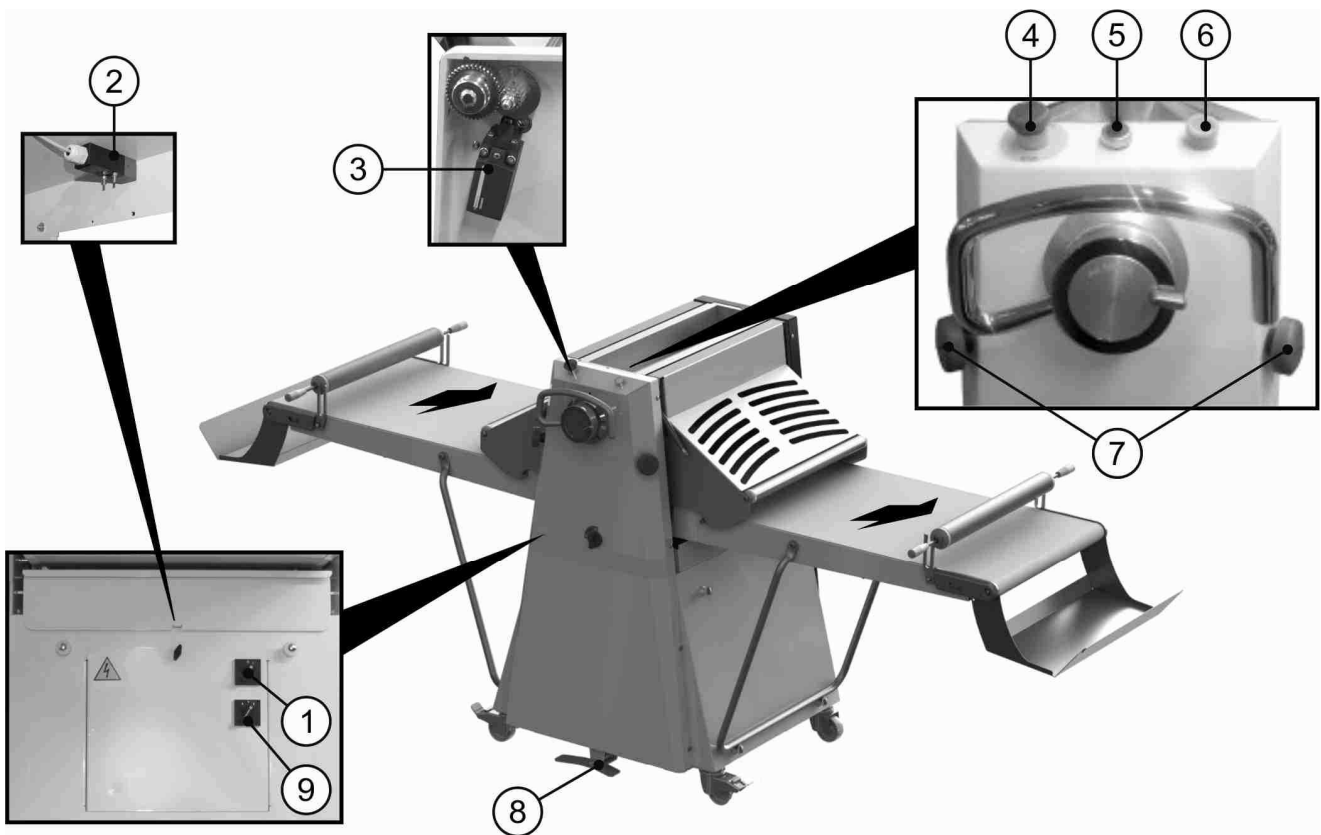

Figure 4
With reference to Figure 4 the machine is supplied as standard with the following control and adjustment devices:
- Position the main switch to **I (ON)** ref.1 Figure 4
- Press the start push-button ref. 7 Figure 4that corresponds to the side where the dough has deposited: the belt starts moving in the direction given by the cylinders. Every time the push-buttons are pressed the movement direction is reversed. The same is valid when using the reversal pedal ref. 8 Figure 1. The direction is reversed immediately, but it is also possible to use selector ref. 9 to select a pause interval, according to the specific need Figure 4
- When using the model with speed adjustment (inverter), use adjuster ref. 5 to select the required work speed5 Figure 4
WARNING: when starting, always press the push-button on the side where the dough has deposited .During standard operation, to reverse the direction of the belts, press one of the two push-buttons ref. 7 Figure 4(or the pedal, if present)